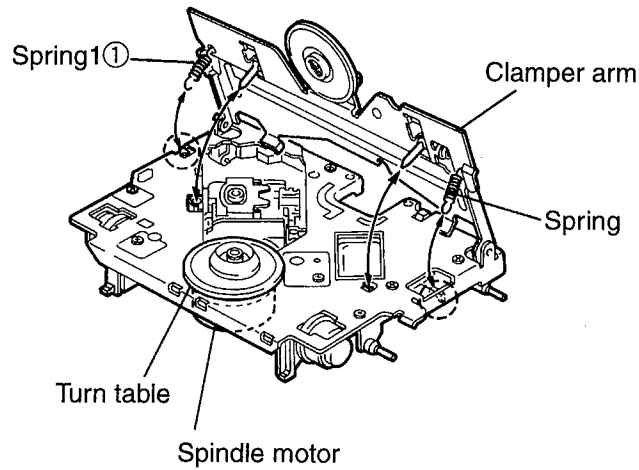

Fig.23
1. After turning back the CD mechanism to initial position, remove the two springs ① and ① on both the right and left sides of the clamper arm (See Fig.23 and Fig.24).